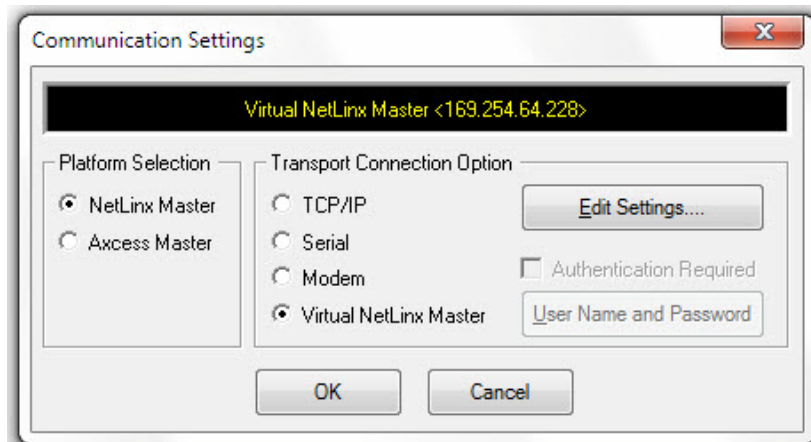

FIG. 31 Communications Settings dialog
3. Click the **Communications Settings** button to open the *Communications Settings* dialog (FIG. 31).